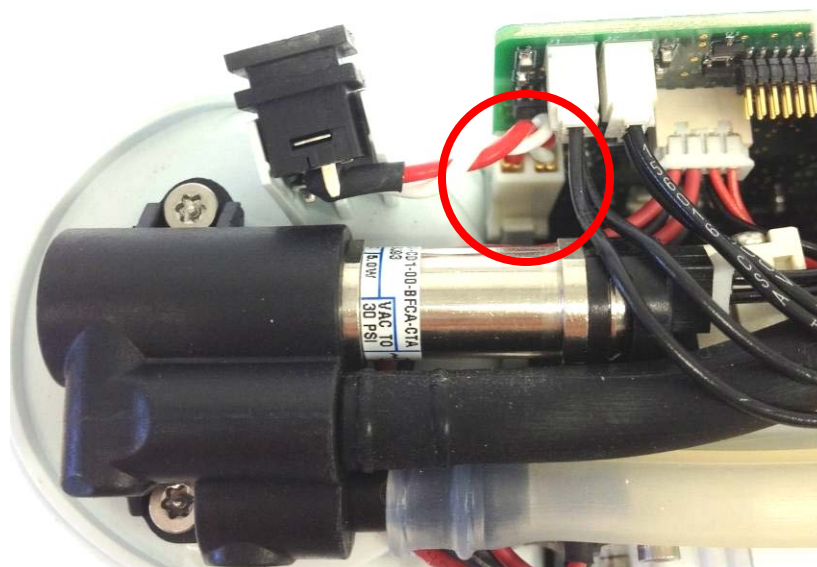

Figure 9: Power cable connector
1. Locate and disconnect the power cable from the connector on the motherboard (Figure 9). Remove the power cable.